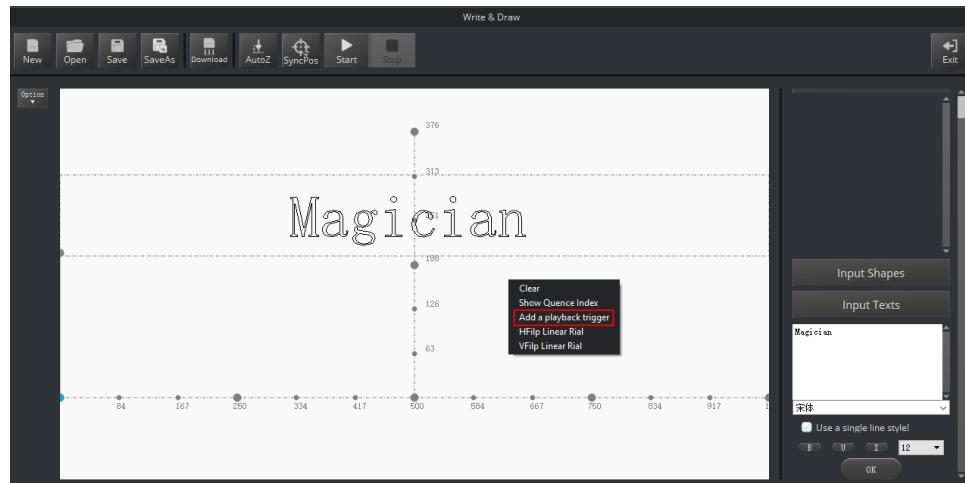

Figure 5.201 Set trigger point
**Step 7** (Optional) Right-click **Add a playback trigger** on the **Write&Draw** page to set trigger points, as shown in Figure 5.201.